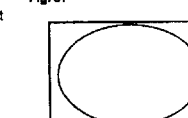

Fig. 38
- Wide: for 16:9 broadcasts (See Fig. 38).